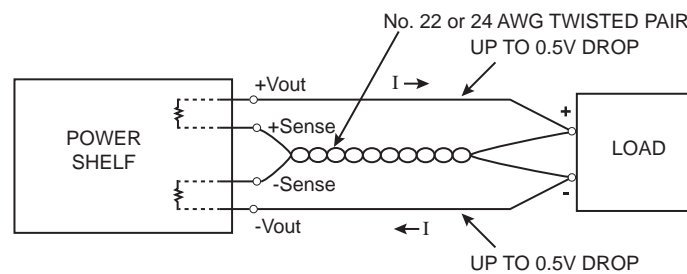

Figure 8. Remote Sensing Connection
13.6 Remote Sensing. Remote sensing connections are made to pins 11 (+Sense) and 23 (-Sense) of the shelf J1 connector. Remote sensing is used to regulate the output voltage at the point of load by compensating for the voltage drop in the wires to the load. The +Sense lead must be connected to the + side of the load and the -Sense to the - side of the load. The sense leads should be a color-coded, twisted pair of AWG no. 22 or 24 copper wire. See Figure 8 below.